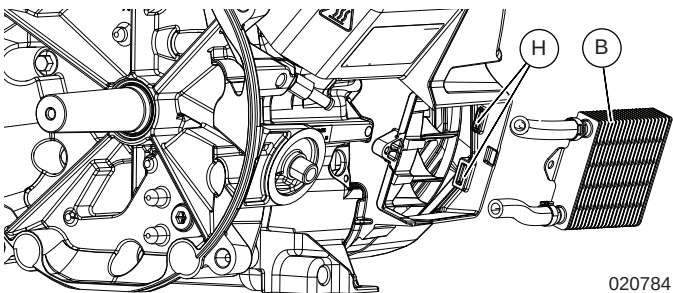

Figure 6-22. Remove Oil Cooler
5. See Figure 6-22. Move oil cooler away from blower housing to free cooler from mounting slots (H) in blower housing. Remove cooler (B) from engine.